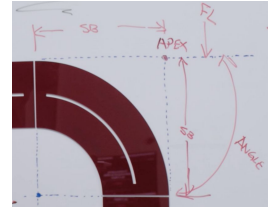

Figure 1.4
- **Flange Length (FL):** The flange length is measured from the apex to the end of the flange, never from the inside corner. Measuring from the inside ignores material thickness and leads to incorrect total length. Accurate flange measurement ensures that the finished part dimensions match design intent (see Figure 1.4).